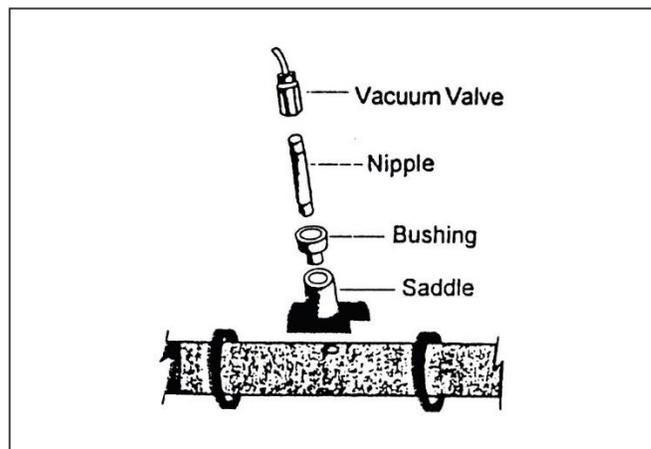

Figure 3. Direct connection to HVE Piping System
4. **Direct connection to an HVE piping system (see Figure 3)**